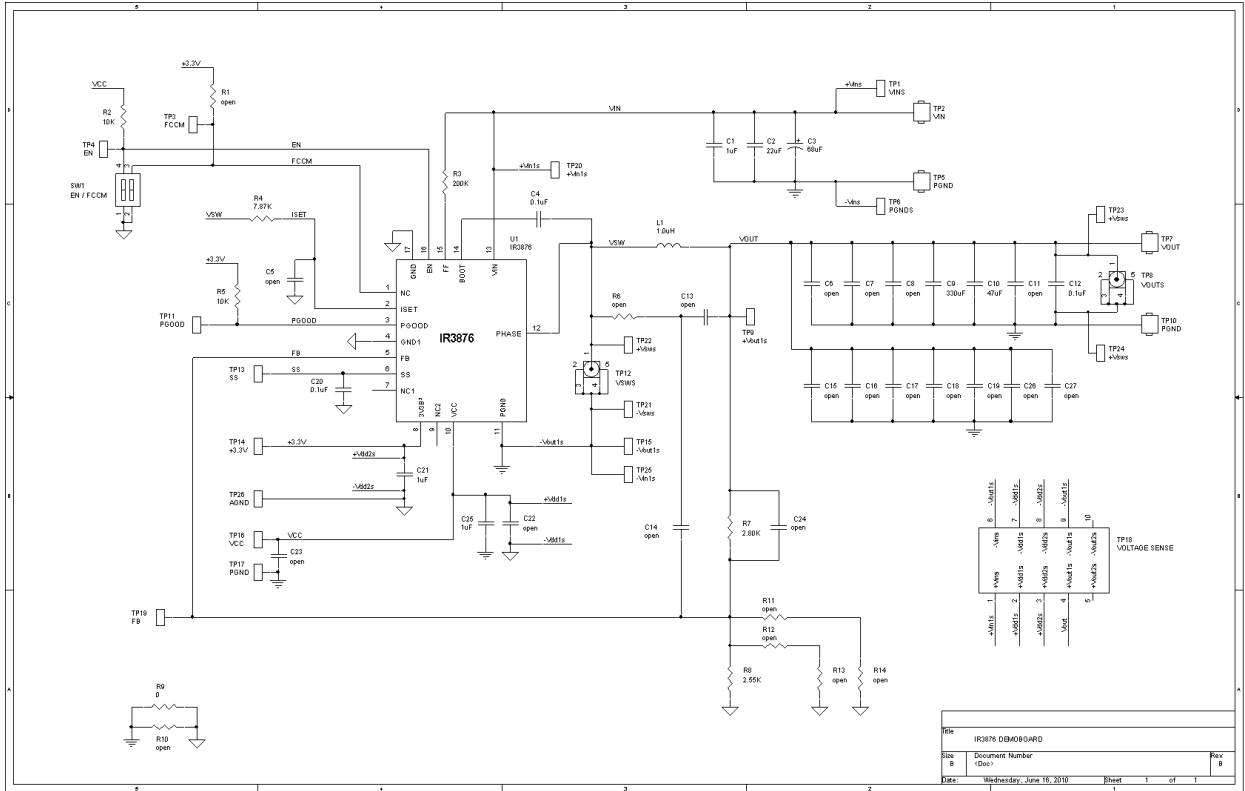

Figure 7. Typical Application Circuit for VOUT = 1.05V, Fs = 300kHz
Tested with demoboard shown in Figure 7, $V_{IN} = 12.6V$, $V_{CC} = 5V$, $V_{out} = 1.05V$, $F_s = 300kHz$, $T_A = 25^\circ C$, no airflow, unless otherwise specified
Tested with demoboard shown in Figure 7, VIN = 12.6V, VCC = 5V, Vout = 1.05V, Fs = 300kHz, TA = 25°C, no airflow, unless otherwise specified
- For applications with all ceramic output capacitors, the ESR is usually too small to meet the stability criteria. In these applications, external slope compensation is necessary to make the loop stable. The ramp injection circuit, composed of R6, C13, and C14, shown in Figure 7 is required. The inductor current ripple sensed by R6 and C13 is AC coupled to the FB pin through C14. The injected ramp slope can be adjusted by changing the RC time constant of R6 and C13, which is similar to the circuit used for DCR current sensing. C14 is typically chosen by $C14 \cdot (R7//R8) = T_{on}$.